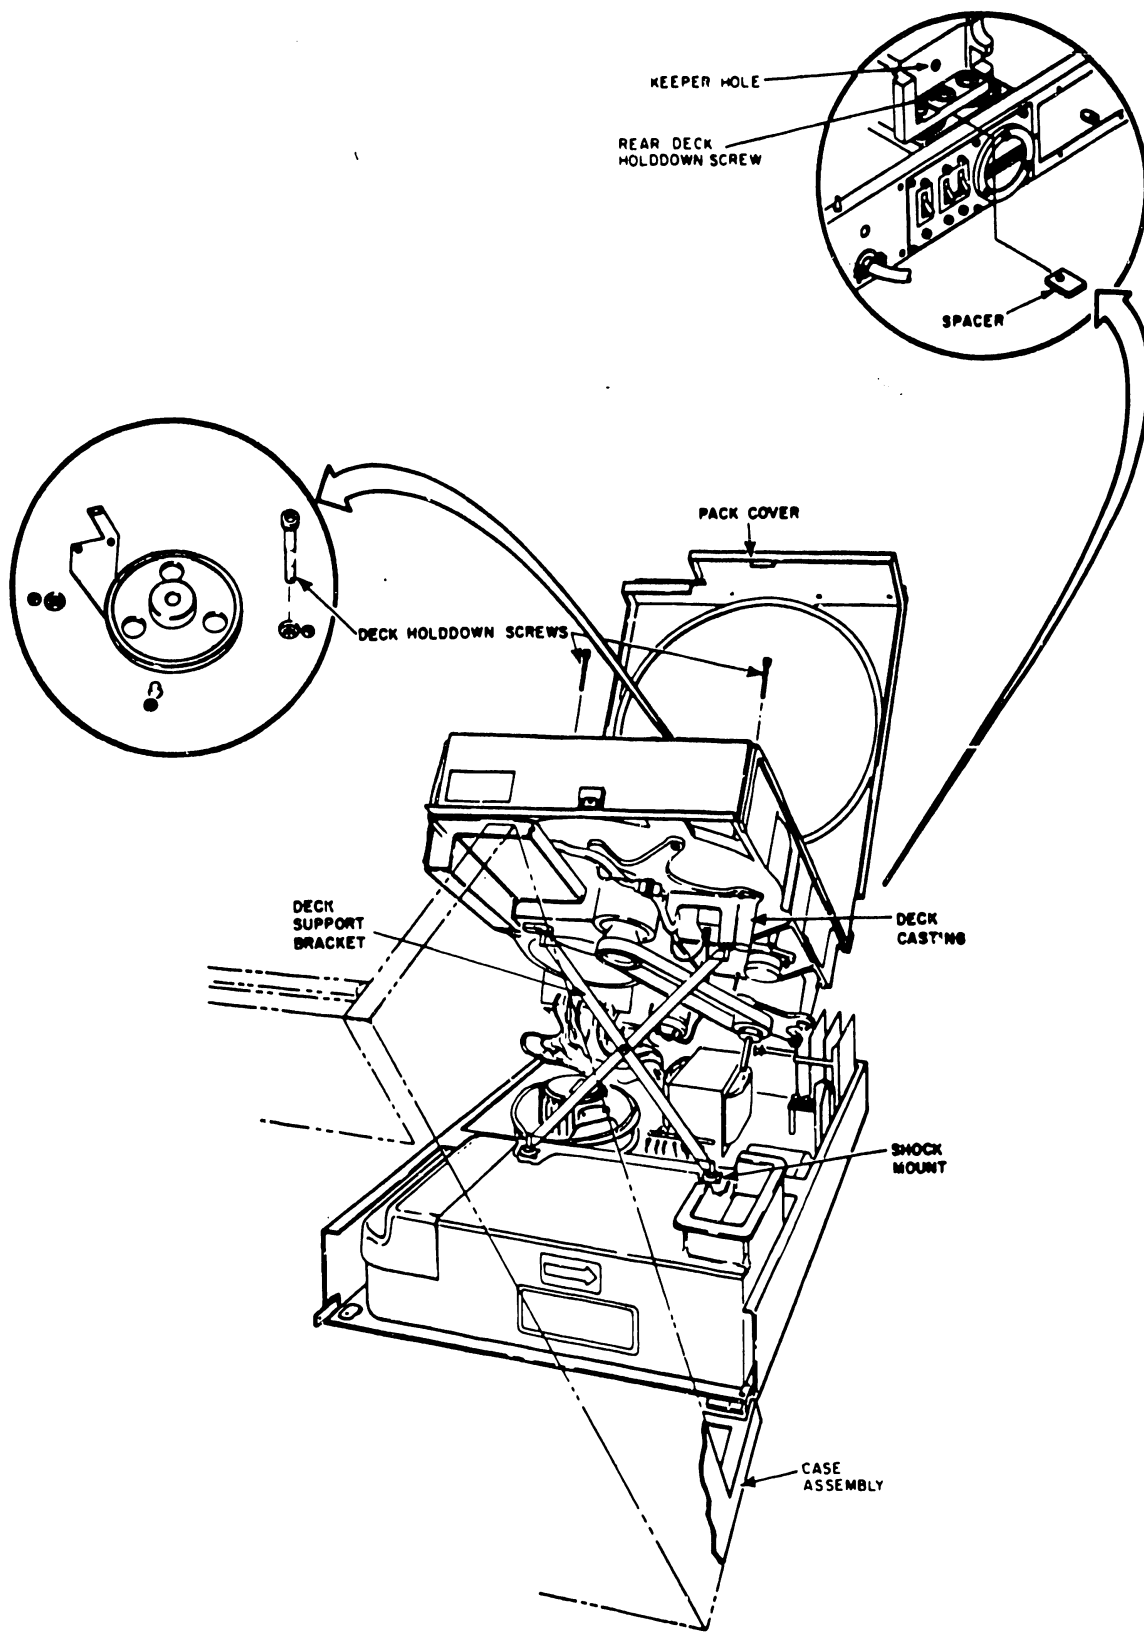

FIGURE 4-1 DECK MAINTENANCE POSITION
- F. Remove (and set aside for future use) the deck hold-down screws from inside the shroud (refer to Figure 4-1).
- H. Insert the spacer between deck and base hinge (refer to insert on Figure 4-1). Insert the rear deck hold-down screw through the deck and the spacer, and secure it to base hinge.